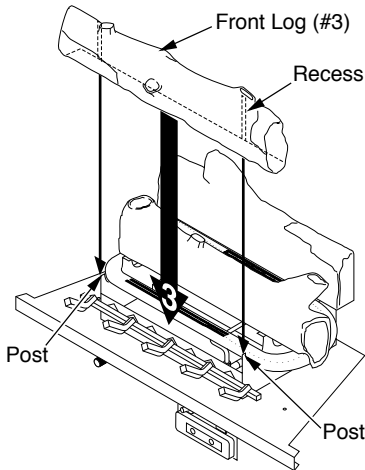

Figure 43 - Installing Front Log (#3)
3. Locate the recesses on the back of the front log (#3). Fit these recesses between the posts of the grate base (see Figure 43, page 24).